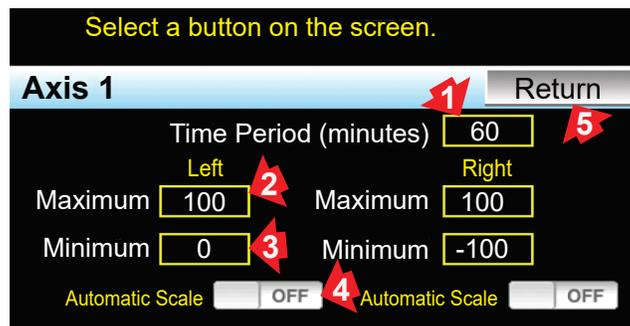

Figure 32. Vertical Axis Range
- Touch box to open keypad. Key: (1)Time Period (minutes) key 4 to 1440 minutes (2)Maximum (3)Minimum – range of vertical axis. Slide: (4) On/Off Automatic Scale to automatically adjust vertical axis as needed. Input Right values if required (5)Return (Figure 32).